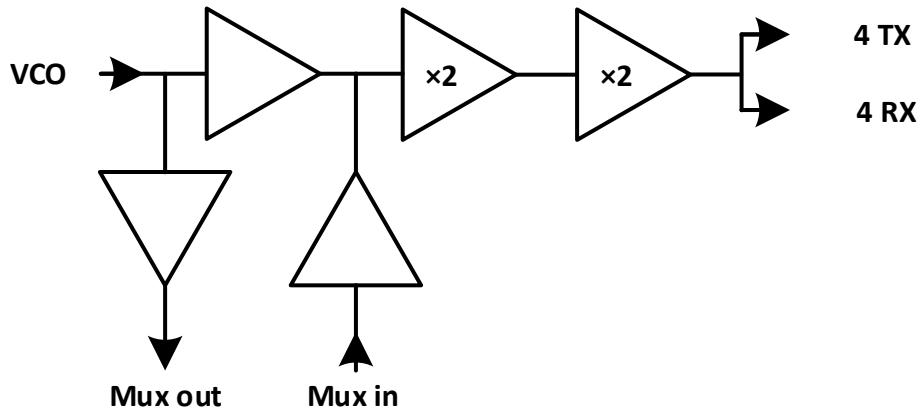

Fig. 5.4: LO Subsystem
The Local Oscillator (LO) module consists of driving amplifiers and frequency multipliers. The device supports mux out and mux in functions for multi-chip cascading applications. See Fig. 5.4.